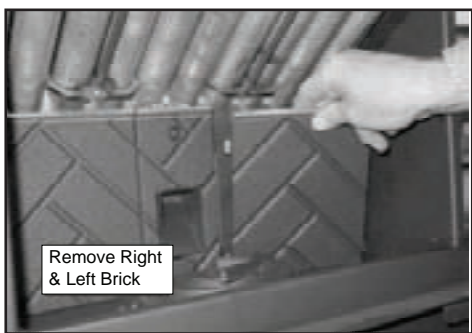

Figure 37.2
3. The top baffle must be removed before you can remove the right and left brick. Remove the right brick by holding top lip of brick and lifting up, then push outside edge back. Slide brick to the right until it is flush with the firebox. Rotate the inside edge of the brick forward and remove brick. Repeat for left brick. **Figure 37.2**.